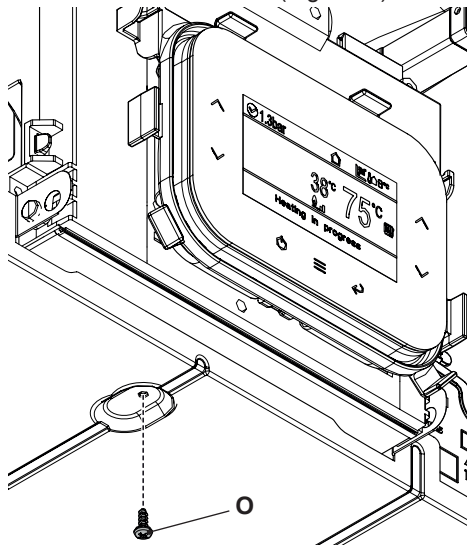

Fig. 6.16
- Unscrew the screw "O" (Fig. 6.16).